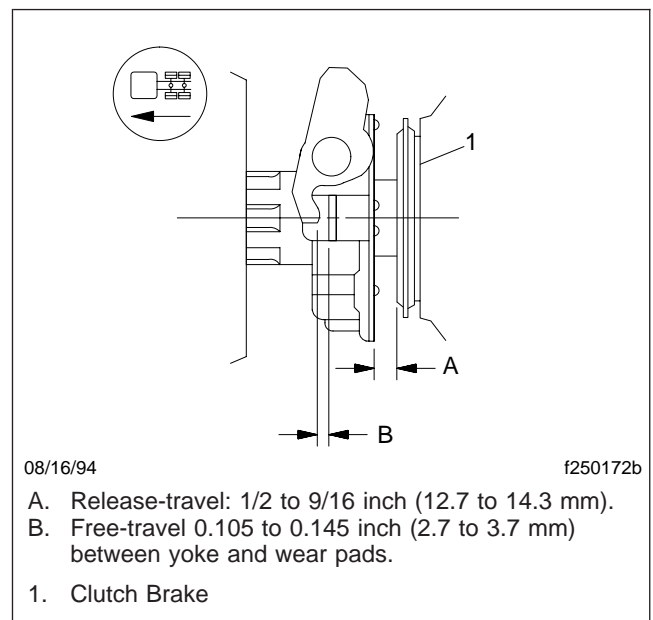
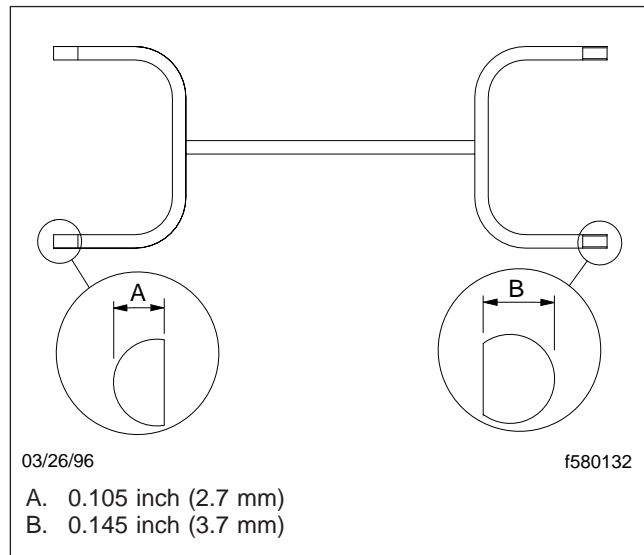

Fig. 6, Clutch Travel Adjustments
Fig. 8, Inspection Tool A02-12254
4. Measure the internal clearance between the aft face of the release-bearing and the forward face of the clutch brake disc, or torque-limiting clutch brake. This internal clearance must be 1/2 inch to 9/16 inch (12.7 mm to 14.3 mm) in order for the release-bearing to release properly. See Fig. 6.
IMPORTANT: An inspection tool A02-12254 (available through the PDCs) can be used to check the distance between the release-bearing and the release yoke (free travel). See Fig. 6 and Fig. 8. The legs on one end of the tool have green tape on them and are 0.105 inch (2.7 mm) thick; the legs on the other end have blue tape on them and are 0.145 inch (3.7 mm) thick.